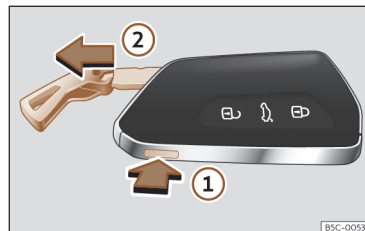

Fig. 73 Vehicle key: remove the key shaft.
- Press the >>> Fig. 73 ① button to release the ring from the key fob and remove the key blade ②. Pressing lightly on the ring leaves it fixed as a key fob.
- Press the >>> Fig. 73 ① button to unlock. Press and hold button ① and at the same time pull on the ring in the direction of arrow >>> Fig. 73 ② to completely remove the key shaft.